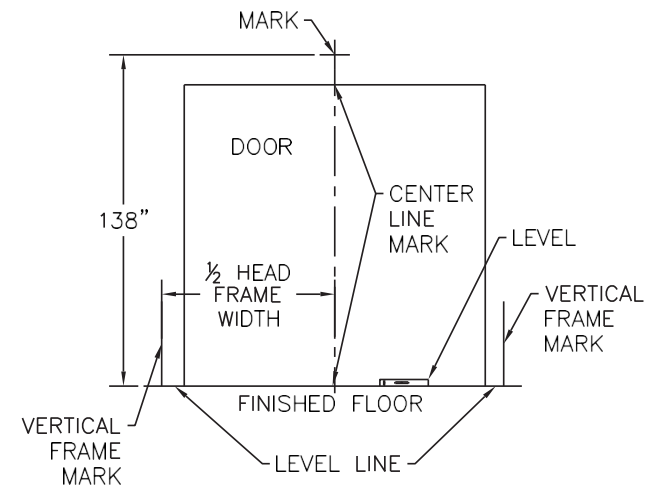

FIG 3
- a. Measure and mark center of dock door opening (**Figure 3**).